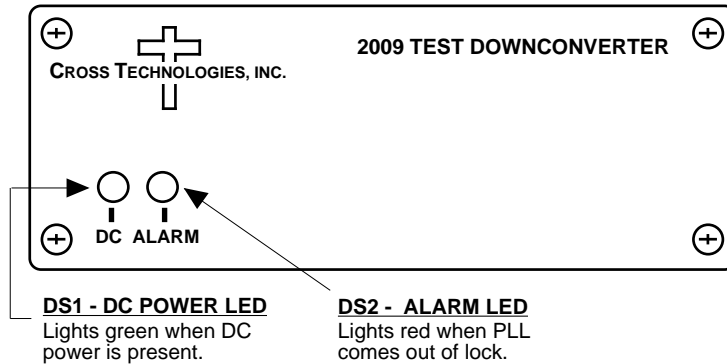

FIGURE 2.2 Model 2009-58 Front Panel Indicators
Figure 2.2 shows front panel indicators.
4. Be sure DS1 (green, DC Power) is on and DS2 (red, Alarm) is off (Figure 2.2).